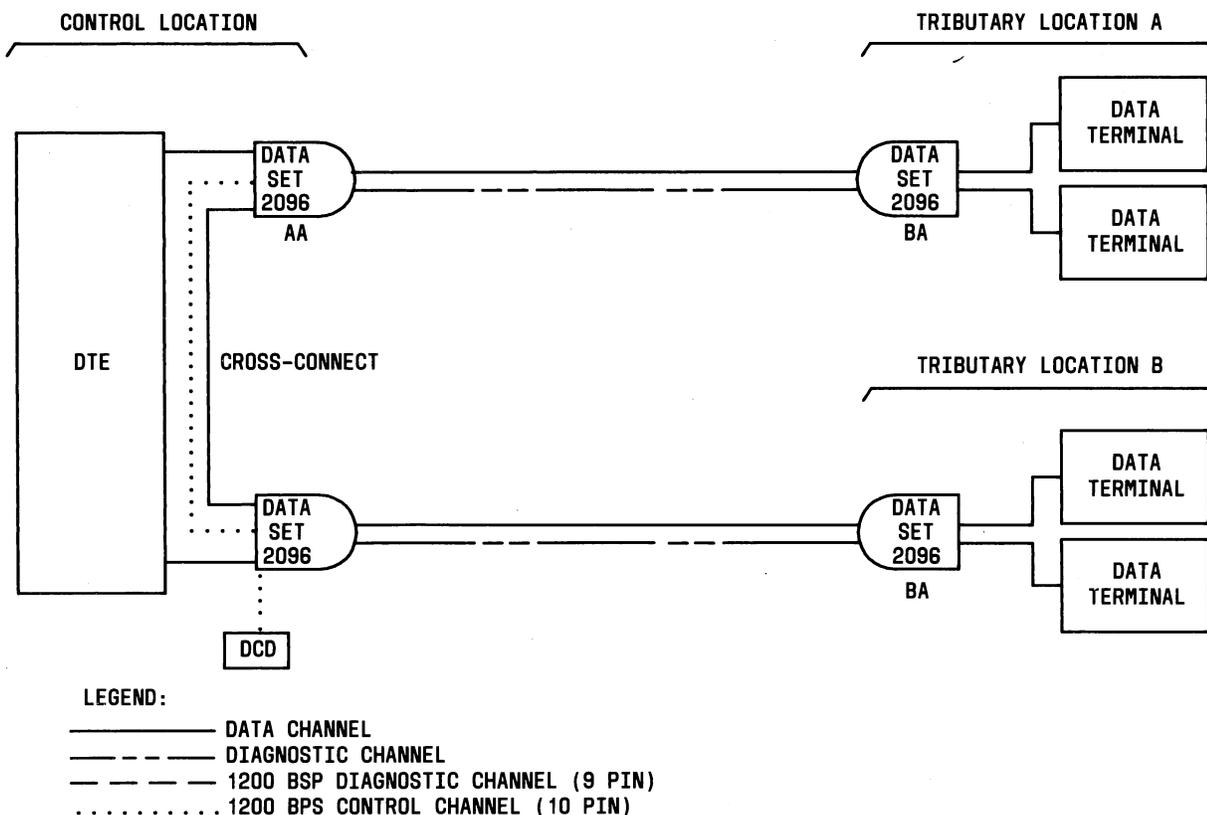

Fig. 24—Extension at Control Location
**3.07** Figure 24 shows that a DS 2096A may be extended through another DS 2096A. A data terminal at location A communicates with a data terminal at location B. The remaining data terminals at locations A and B communicate with the data terminal equipment (DTE). Unlike the DS 209A, the DS 2096A has the capability of being externally timed on any one port, therefore the cross-connect in this example may be on any port. With a DCD at the DTE location, this circuit is